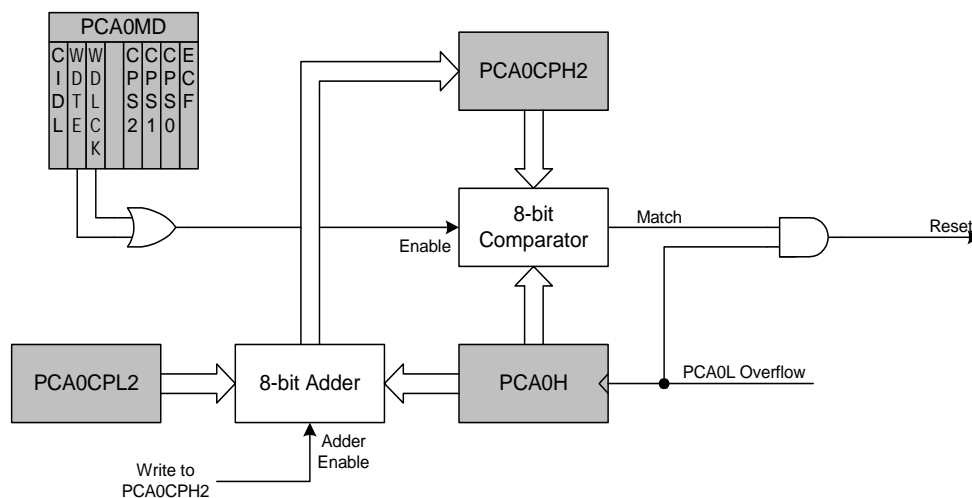

Figure 17.10. PCA Module 2 with Watchdog Timer Enabled
While the WDT is enabled, writes to the CR bit will not change the PCA counter state; the counter will run until the WDT is disabled. The PCA counter run control (CR) will read zero if the WDT is enabled but user software has not enabled the PCA counter. If a match occurs between PCA0CPH2 and PCA0H while the WDT is enabled, a reset will be generated. To prevent a WDT reset, the WDT may be updated with a write of any value to PCA0CPH2. Upon a PCA0CPH2 write, PCA0H plus the offset held in PCA0CPL2 is loaded into PCA0CPH2 (See Figure 17.10).